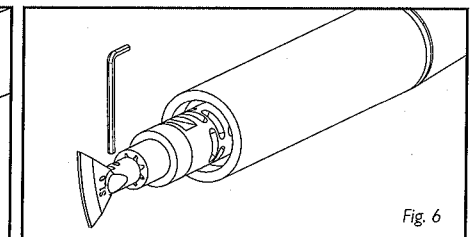

Fig. 6
- To remove tip insert Allen wrench into hole and turn counter clockwise. Please handle all components after the tool is completely cool. Fig 6.